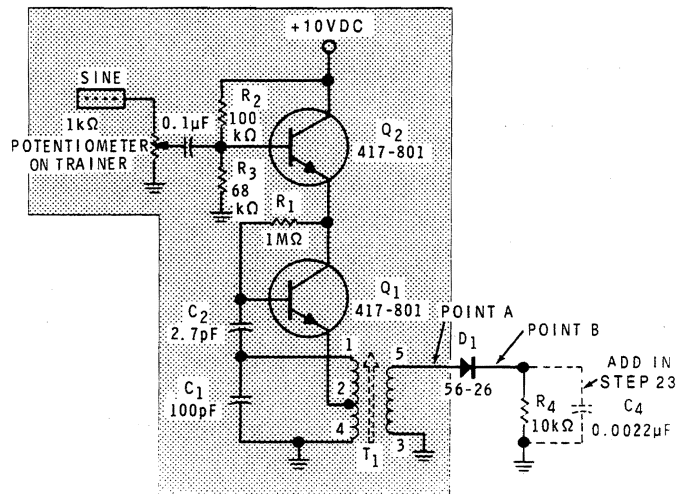

Figure 7-25
- Remove the long hook-up wire from point A. Modify the circuit as shown in Figure 7-25. The new circuitry is shown outside the shaded area. Initially leave  $C_4$  disconnected.